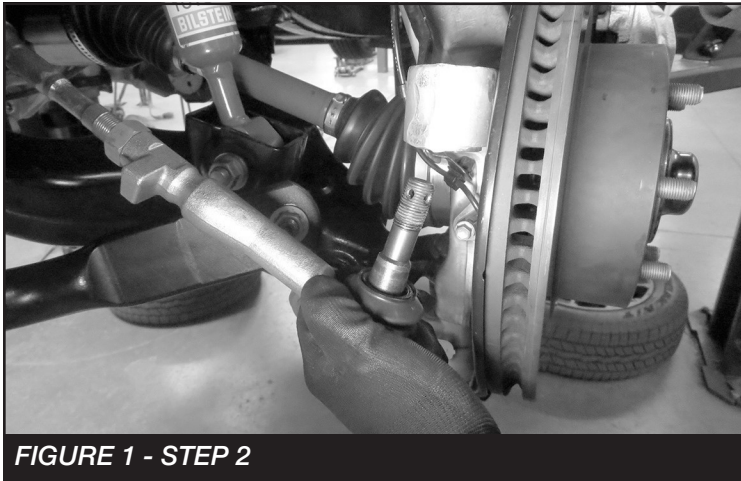

FIGURE 1 - STEP 2
2. Remove the cotter pin from the tie rod end ball joint. Loosen the nut and using a hammer strike the knuckle ball joint housing to dislodge the tie rod end. **Careful not to damage the tie rod end. SEE FIGURE 1**